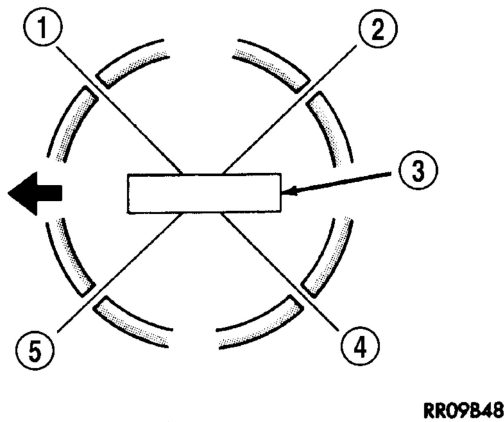

Fig. 17 PISTON RING END GAP POSITION
- (12) Position piston ring end gaps as shown in (Fig. 17). It is important that expander ring gap is at least 45° from the side rail gaps, but not on the piston pin center or on the thrust direction.